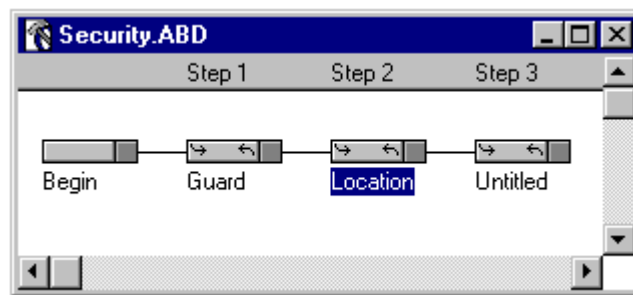

Figure 3-14 Step 2 Input Handler Named
13. Double-click **Untitled** under Step 2 to open the name box. Type **Location** and press <Enter> (Figure 3-14).